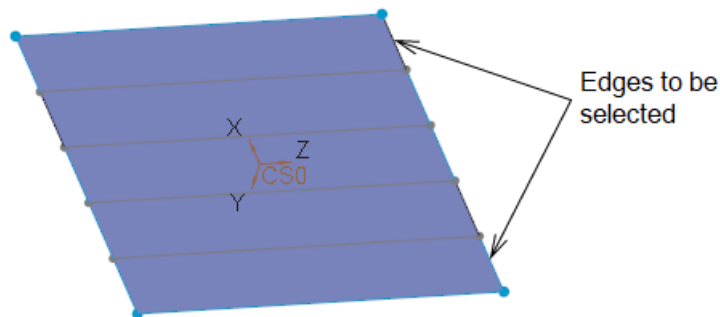
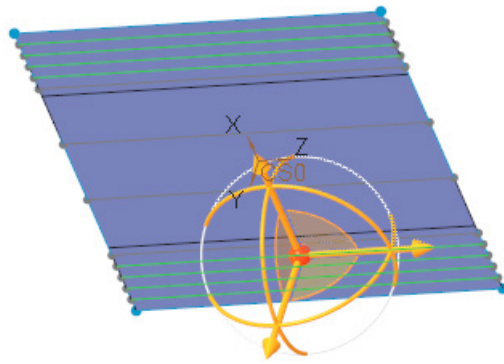

Figure 15-137 Surface with corners edges to be selected
Figure 15-138 Surface with corner edges split by using the **4 Split** option
3. Select the two corner edges, as shown in Figure 15-137, and then choose the **4 Splits** option again; the surface is split, as shown in Figure 15-138.